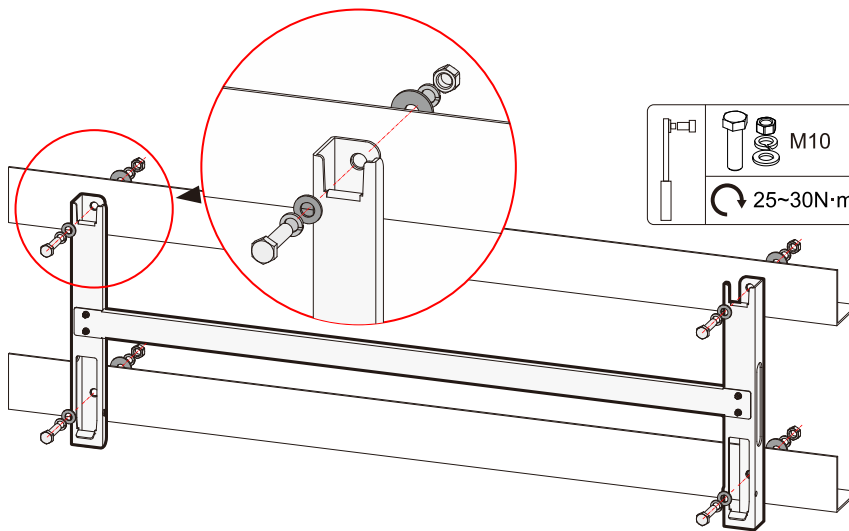

Figure3-15 Fix installation holder
Step 4 Fix the installation holder to the bracket through M10\*40 bolts, flat washers, spring washers and nuts, and then tighten the nuts clockwise through wrench, as shown in Figure3-15.